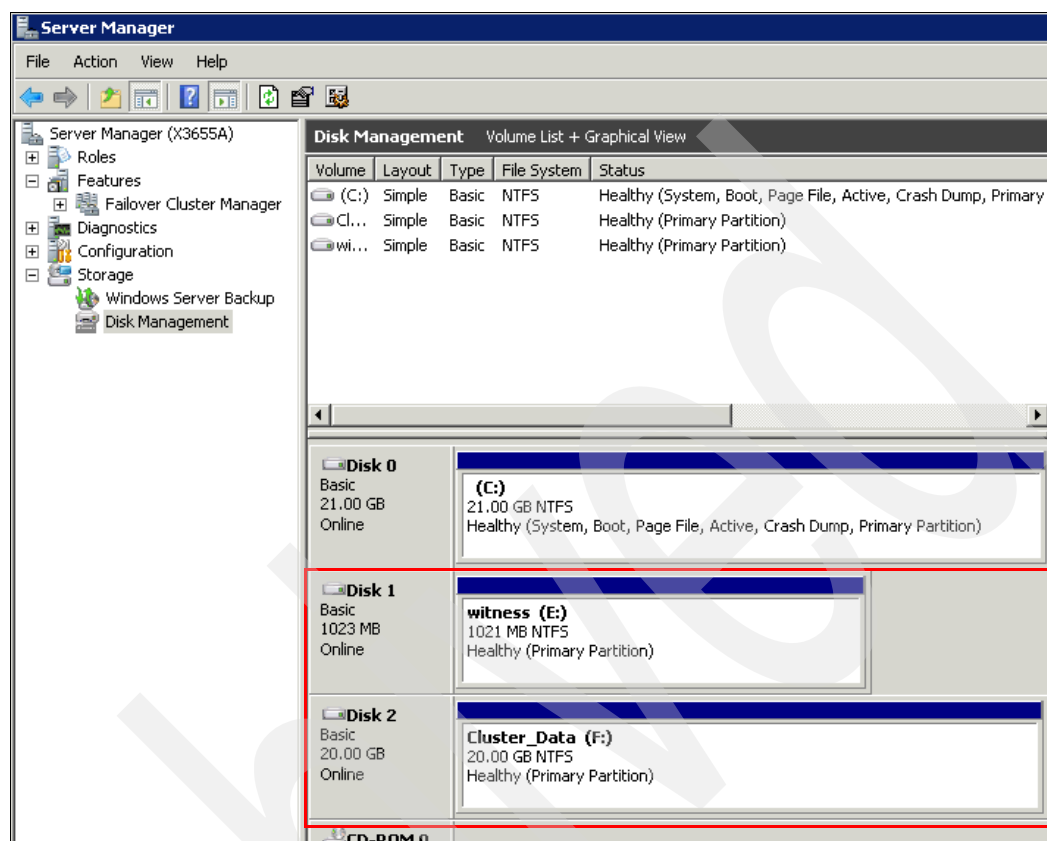

Figure 5-85 Windows - disk preparation for cluster
4. Finally, both disks must have a drive letter applied to them and are available with a file system as shown in Figure 5-85.